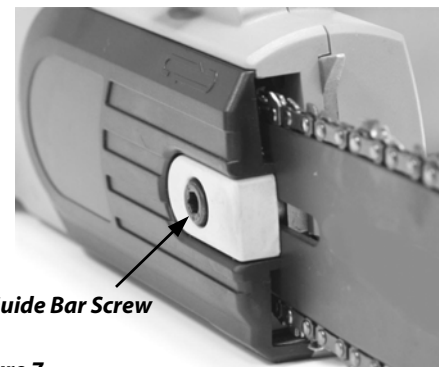

Figure 7
1. Using the Hex Key Wrench, loosen the Guide Bar Screw (Figure 7) so it is just finger tight.